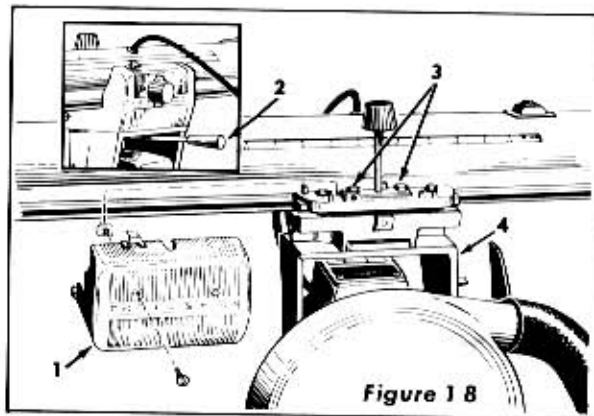

Figure 18
- Remove left hand carriage cover (Item 1, figure 18).
- Loosen yoke clamp handle (Item 2, figure 18) by pulling the handle horizontally toward the front of the saw.
- Slightly loosen the two hex head machine screws (Item 3, figure 18).
- Rotate the yoke (Item 4, figure 18) very slightly opposite to the direction of heel. (For left heel, rotate yoke clockwise; for right heel rotate yoke counterclockwise.)
- Retighten the two hex head machine screws (Item 3, figure 18) and relock the yoke by pushing the yoke clamp handle toward the rear of the saw.